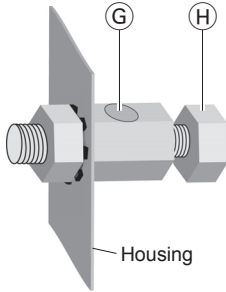

Fig. 5
- Put the earth wire ( $Cu \geq 4 \text{ mm}^2$ ) into the hole **G** (Fig. 5) of the earth connection terminal **10** (Fig. 2, page 7) and fasten the earth wire with the screw **H** securely.